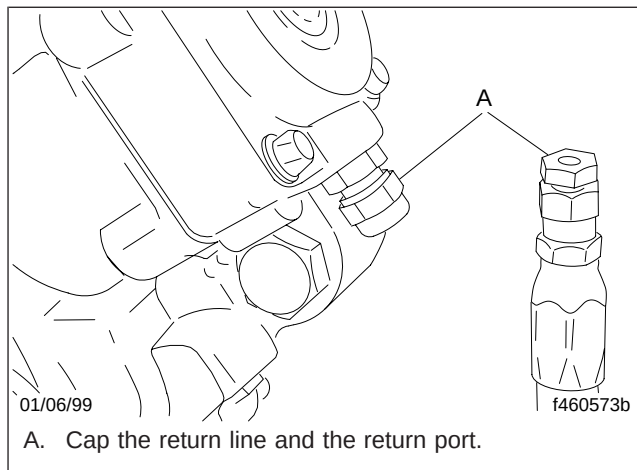

Fig. 1, Disconnected Return Line
2. Disconnect the return line from the steering gear and plug the line. See Fig. 1. Cap the return port of the gear with a high-pressure fitting.